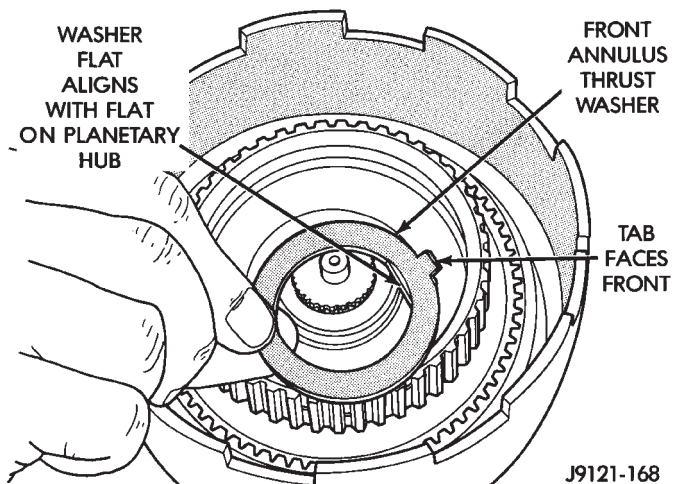

Fig. 240 Installing Front Annulus Thrust Washer
(19) Install thrust washer in front annulus (Fig. 240). **Align flat on washer with flat on planetary hub. Also be sure washer tab is facing up.**